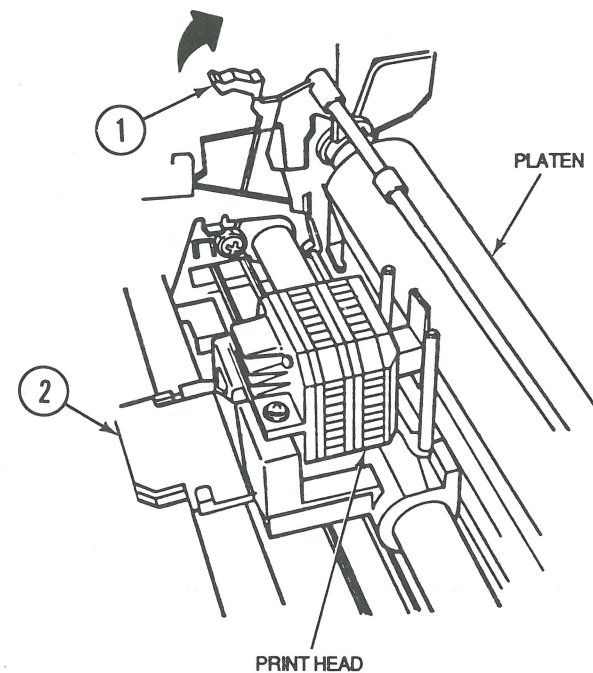

FIGURE 1
5. Check to see that the paper thickness lever (Figure 1, #1) is pushed all the way toward the back of the printer, to the number-one position.
6. Move the carrier assembly to the center of the printer (Figure 1, #2).